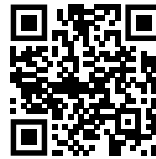

Fig. 113
- Open Liebherr SmartMonitoring Dashboard. (see Fig. 113)